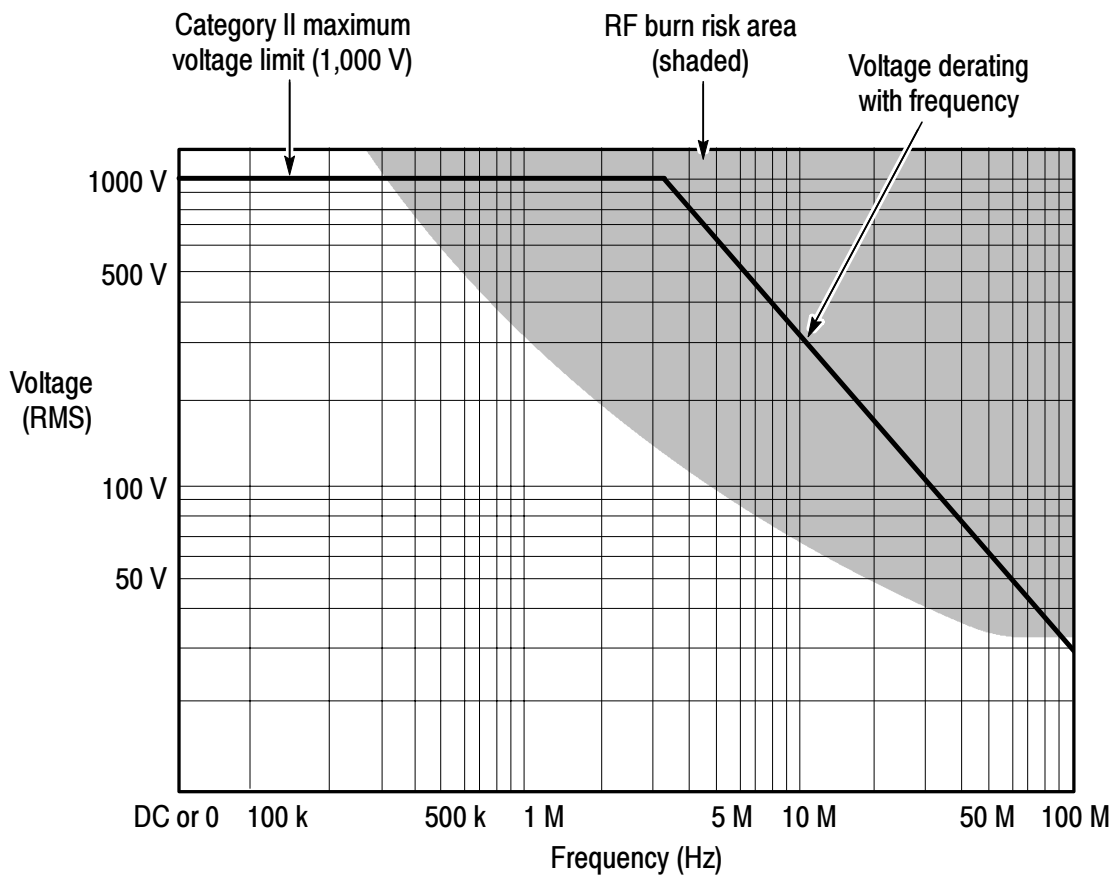

Figure 1: Safety Limits (voltage between either input and earth ground)
| Figure 1: Safety Limits (voltage between either input and earth ground) | 3 |
Avoid RF Burns While Handling Probe. To avoid RF burns, do not handle the probe while the input leads are connected to circuits above the voltage and frequency limits specified in Figure 1 on page 3. Use only probe accessories that are rated for the application.
WARNING. *To avoid personal injury, do not handle the probe leads when the leads are connected to a source that is above the voltage and frequency limits given in Figure 1 on page 3. The area above these limits poses a risk of radio frequency (RF) burns.*
Above 1.5 MHz, the voltage limit decreases as frequency increases. See Figure 1. The input limit applies to both the 100X and 1,000X settings.